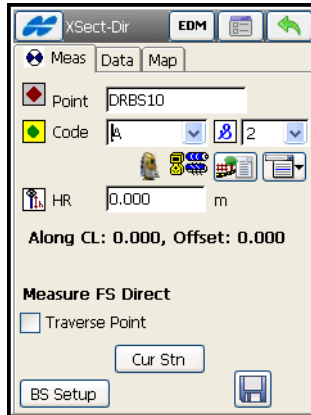

Figure 8-53. Xsect-Direct
3. In the **XSect-Dir** screen (Figure 8-53 on page 8-53) perform the usual observation work, relative to the cross-section, as described in “Measuring Sideshot Sets” on page 8-41. The only difference lies in the presence of the **Cur Stn** button, which makes the measurement, but unlike the  button does not store the point (Figure 8-53 on page 8-53).